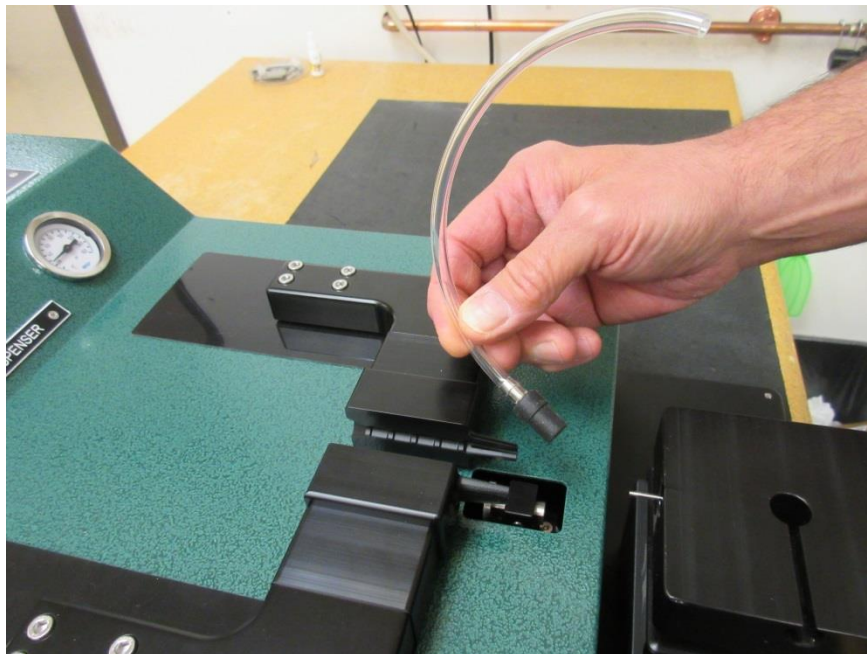
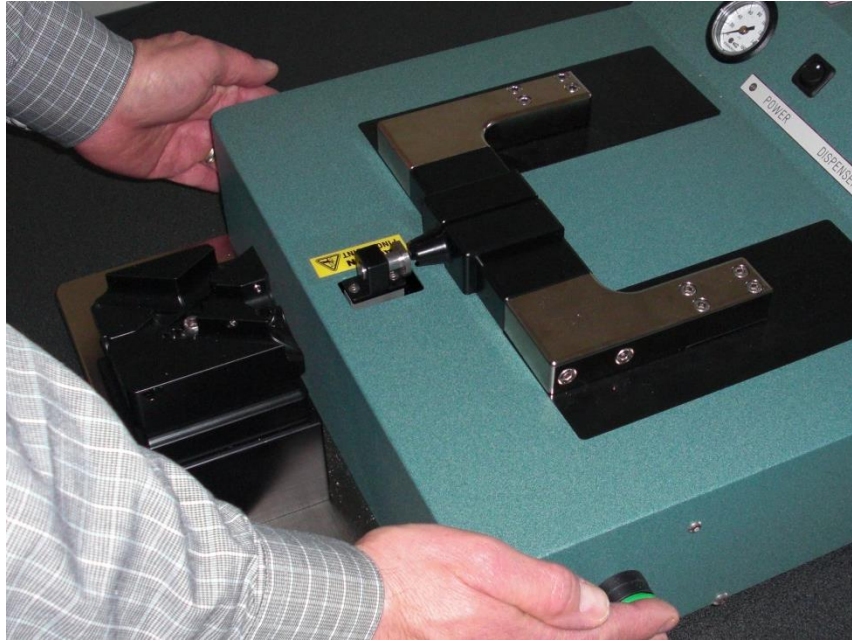

Figure 19: Removing the fitting and tubing
Figure 20: Cycle reset, stop gate up
- Note: If the anti-tiedown buttons are released during this operation, the machine will halt and release all air pressure. Remove the tubing from the jaws and the fitting from the nest (Figure 19). Reset the machine to position 1 by holding down the anti-tiedown buttons until the stop gate comes up. (Figure 20)
- After removing the fitting and tubing, press and hold the anti-tiedown buttons again. Hold until the jaws return to the semi-open position and the stop gate comes up. (Figure 20)